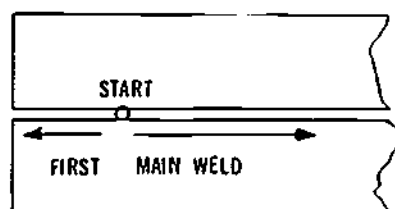

Figure 8-28. Welding Longitudinal Seams
4. On longitudinal seams, start some distance in from the end of the joint with a short weld, then finish the main weld to the other end of the joint (Figure 8-28).